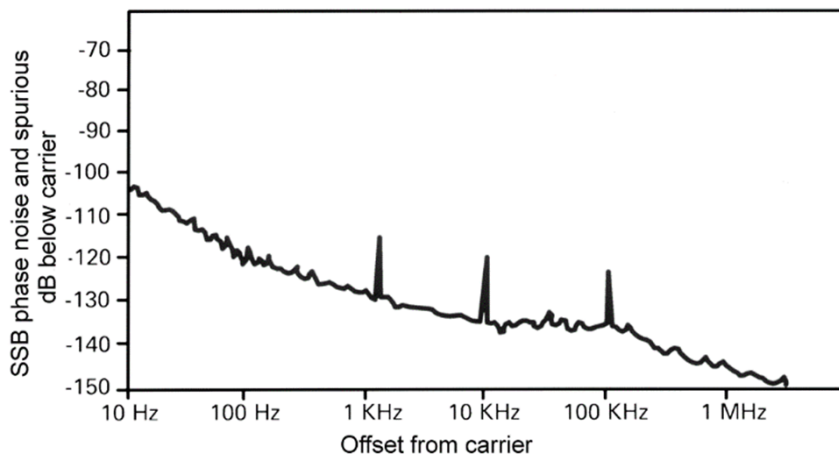

Figure 2. Signal generator SSB phase noise and spurious effects on one side of the carrier
There are many ways to define spectral purity. Figure 2 illustrates the most common and meaningful method to specify short-term stability by plotting the signal generator's single-sideband (SSB) phase noise in a 1 Hz bandwidth versus the offset from the carrier. This example expresses the SSB phase noise in dB relative to the carrier (dBc). A 1 Hz bandwidth facilitates easy calculation and noise comparison in other bandwidths. This plot is a graphical representation of the phase noise distribution on one side of the carrier.
Residual frequency modulation (FM) refers to the unwanted angular modulation or FM inherent in a signal generator when all the modulation is deactivated. This result includes spurious and phase noise effects, as shown in Figure 2. The integral or area under the single-sideband (SSB) curve, with limits set by the post-detection bandwidth, defines this modulation. Common bandwidths are 300 Hz to 3 kHz and 20 Hz to 15 kHz.